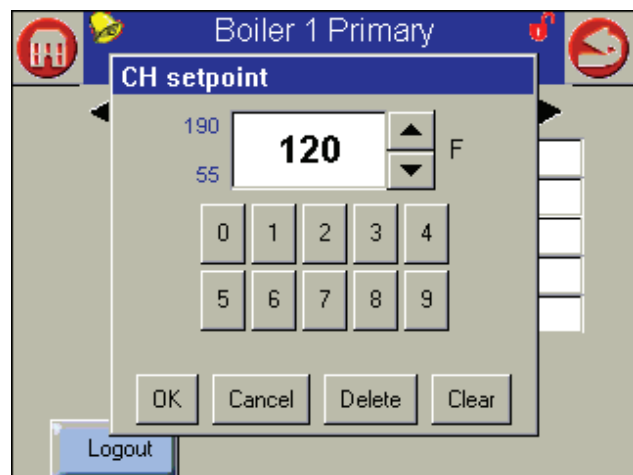

Fig. 40 - Numeric Entry Screen
5. The process would be the same if you wanted to change a numerical value, except that system would present a numeric entry screen. See Fig. 40.